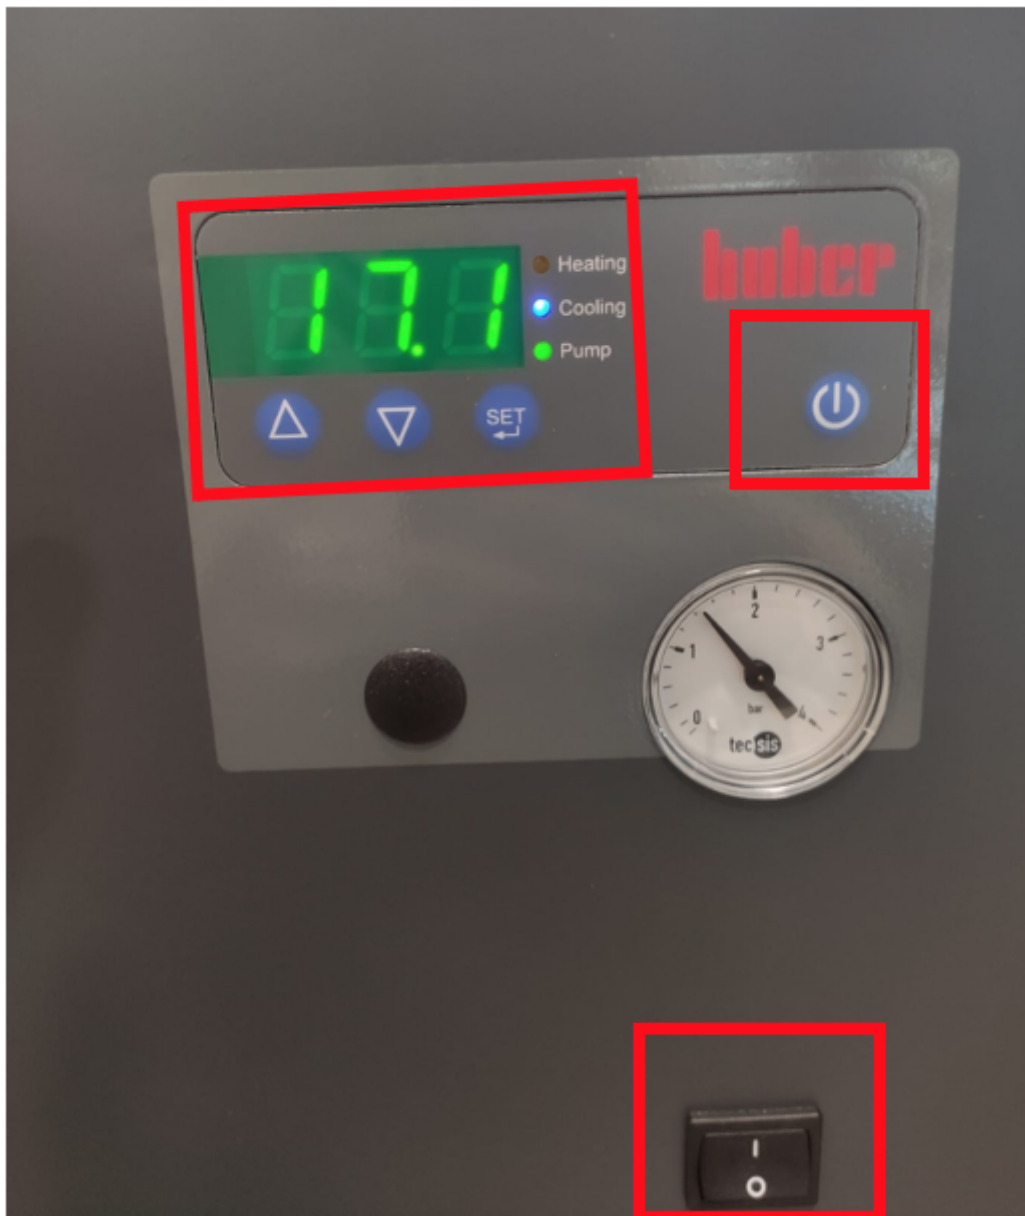

Figure 9
7. Switch on the chiller from on/off bottom as show in Figure 9, you need to wait till the value in the display is stable (once you switch on the chiller you can see 8.88 in the display then it will be changed to the right stable value).
8. Press ON button (blue one) for 1-2 seconds as shown in Figure 9 .